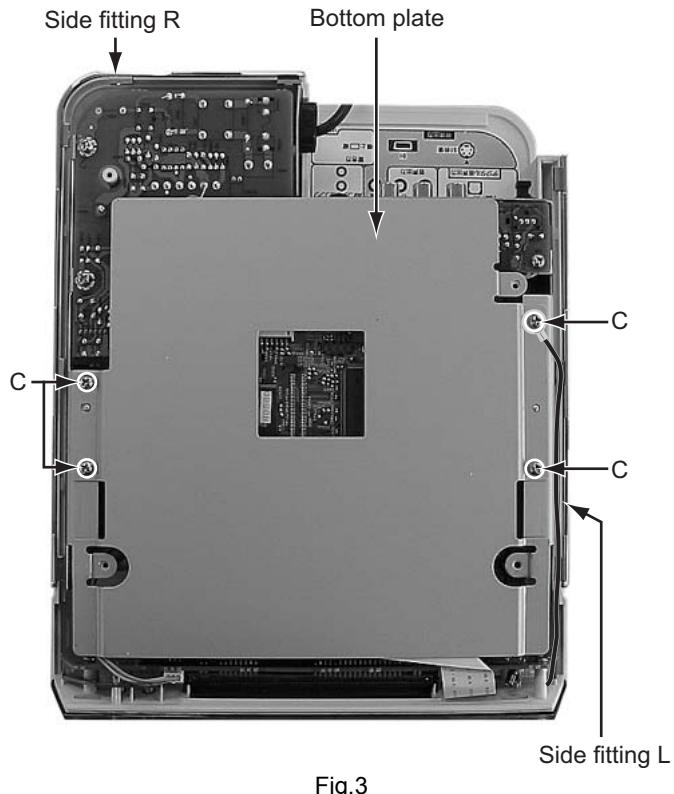

Fig.3
2.1.2 Removing the mechanism assembly (See Figure 3, Figure 4, Figure 5)